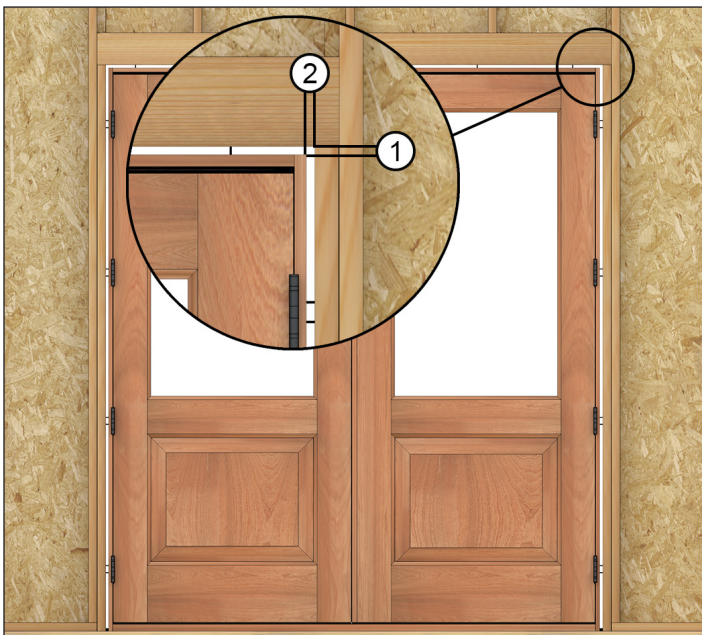

Figure 1 Rough Opening Clearance
1. Rough openings (RO) should be 1/2" (13) higher and 1" (25) wider than the outside measurement of the frame (1/2" on each side of the frame). See Figure 1.